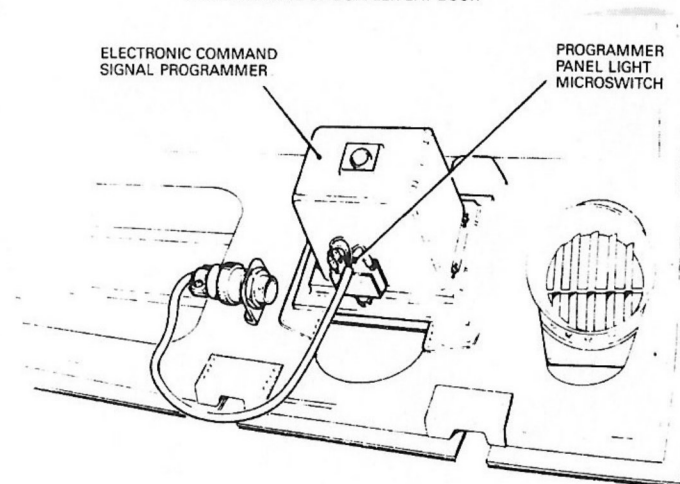

Fig. 1 AN/ALE-40 Dispenser, programmer and flare safety pin locations
2. On post-Mod 1750, pre-Mod 1803 aircraft a dispenser for chaff and/or flares is fitted externally on the undersurface of each engine nacelle and an access door for an electronic signal programmer is provided on the starboard side of the doppler aerial bay panel, as shown in Fig. 1. With the introduction of Mod 1803, the Mod 1750
dispensers are removed from the engine nacelles. Two flare dispensers are installed in the previously unoccupied hold back gear compartment and provision is made for operation of two chaff dispensers attached to Mod 5400 pylons. A safety switch and circuit breaker associated with the modified flare dispensers installation is inserted through a hole in the fuselage skin (Fig. 1).
Removal (Fig. 1)
Installation (Fig.1)